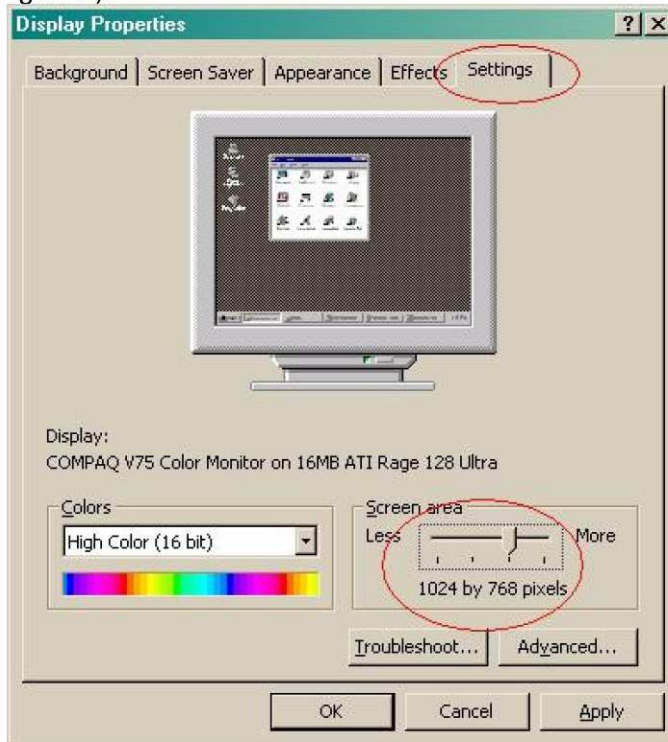
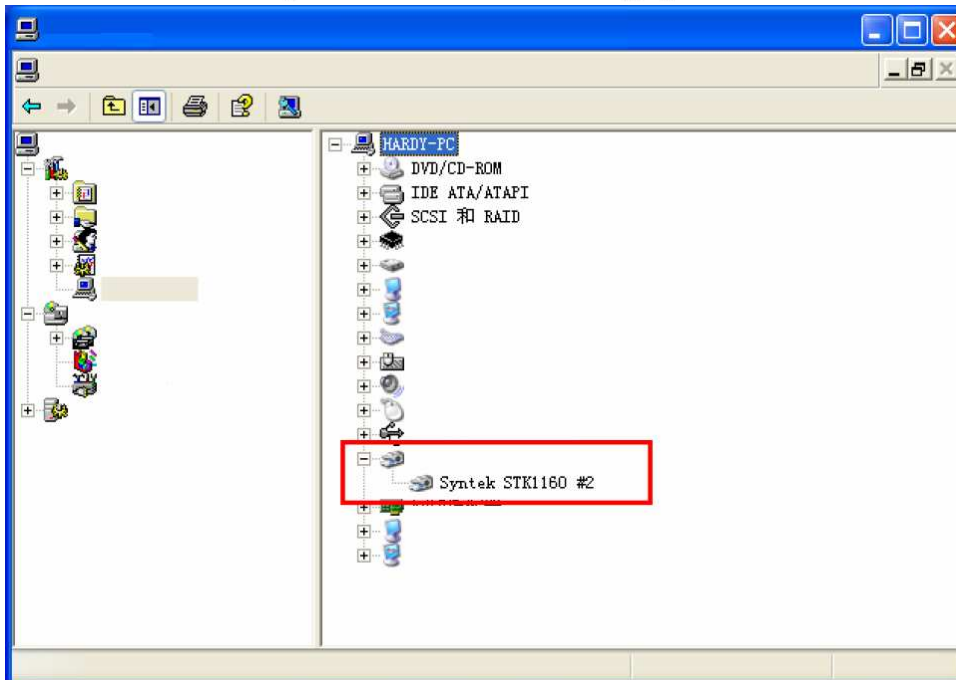

Figure 1. Set resolution rate in graphics card
Figure 2 Lists for correct installation of acquisition card
2. The installation of computer, install operating system XP, insert video capture card, install capture card driver (there is capture card driver under software tools directory, you need not use CD-ROM). The output resolution of projector is 1024 * 768. (Such as: Figure 1 and figure 2).